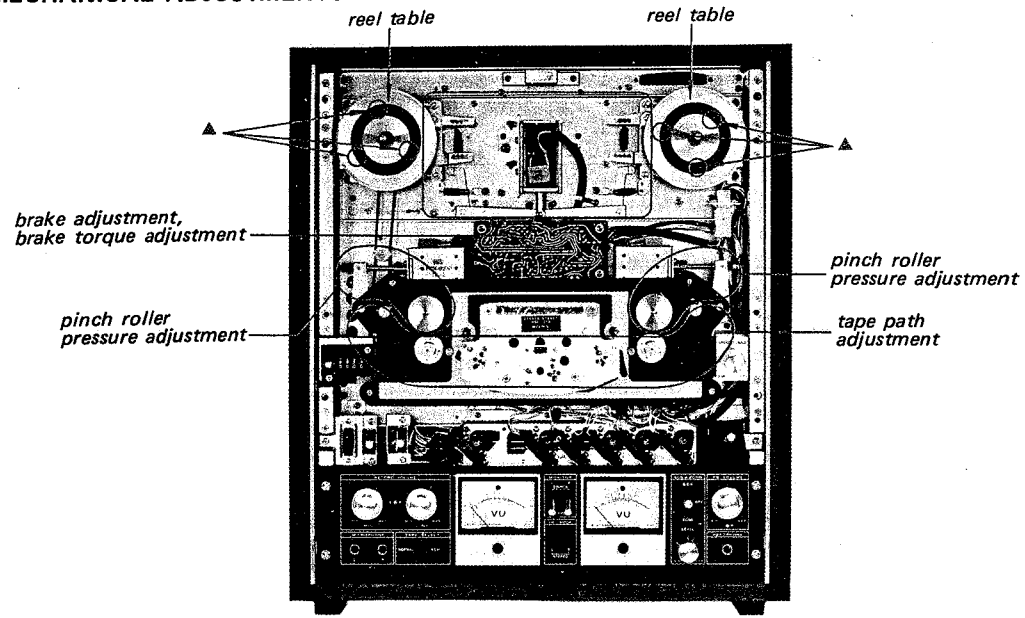

Fig. 4-1-1. Adjusting parts location
- (1) Remove the reel panel, referring to "Panel Removal" on page 14.
- (2) Remove the reel table by removing the six screws marked with ▲ in Fig. 4-1-1.
- (3) Place the unit in the STOP mode.
- (4) Loosen the two screws marked with ● at the take-up and the supply brake bands.
- (5) Temporarily tighten the screws marked with ● while pulling the brake band in the direction shown by the arrow as far as it will go.
- (6) When pushing the pole piece of solenoid slowly into its housing by the hand, the releasing plates of the take-up side and the supply side should touch the each brake lever at a time. If not, loosen the screw marked with ● of the part at which the releasing plate touches the brake lever faster than the other one and adjust the length of the brake band.
- (7) Place the unit in the PLAY mode.
- (8) Be sure that the brake solenoid is energized.
- (9) Loosen the three screws marked with ■ and adjust by positioning the brake solenoid holding plate so that the three screws are in the middle of the respective oval-shaped